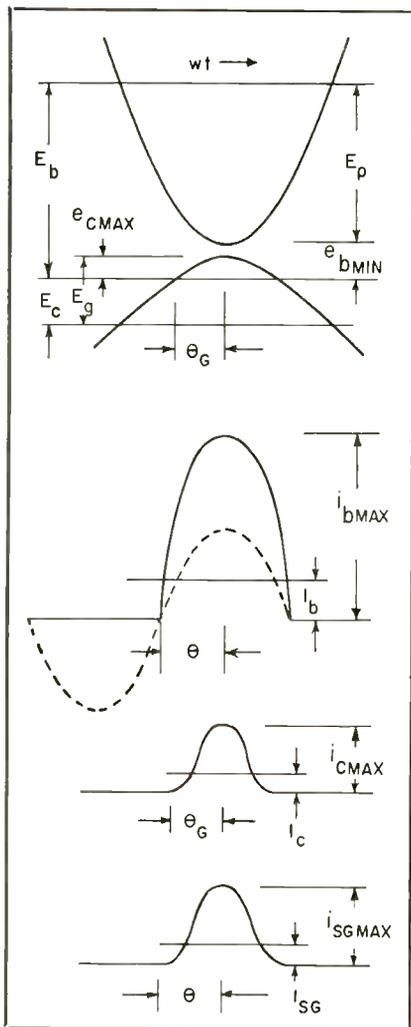

Fig. 1: Class C tube operation. The dotted curve in second group represents the fundamental frequency.
Fig. 1 illustrates tube operation in a Class C amplifier. The grid is given enough negative bias voltage to prevent the flow of plate current. Then a cosine wave of r-f voltage is superimposed on the grid, so that the grid goes positive with respect to the cathode, for part of the r-f cycle. While the grid is in (or near) the positive region, plate current flows. The instantaneous value of the plate current is given in Eq. (5).
Return for the moment to Fig. 1. The maximum value of plate current flows when the plate voltage is at its lowest value ( $e_{bmin}$ ). The r-f voltage across the tuned circuit is a cosine wave; its peak value is  $E_p$ . We can express the plate power output as: